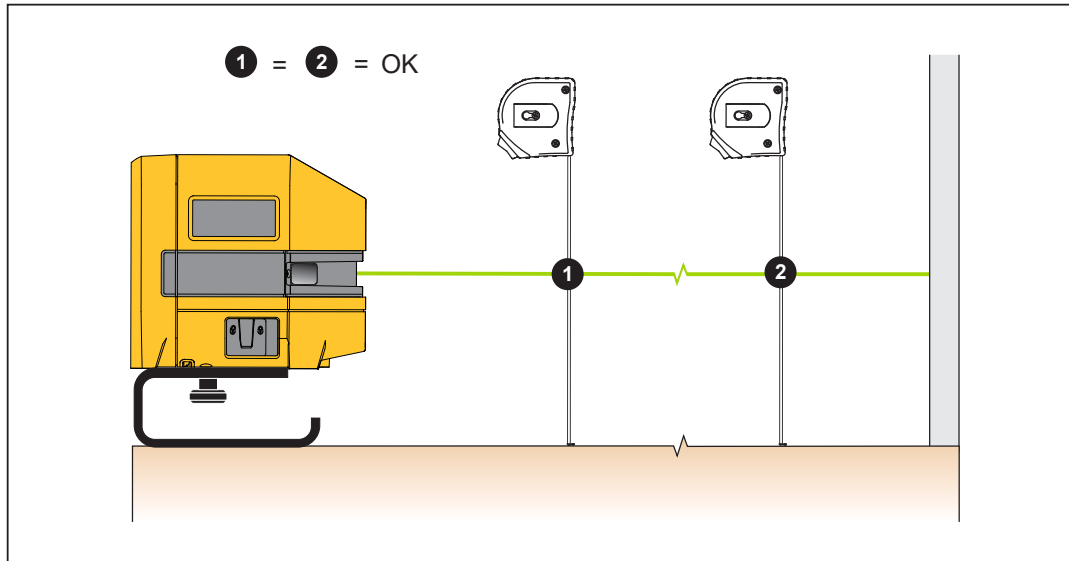

Figure 3. Existing Item Alignment
3. Measure the distance from the item to the laser at various distances from the Product. See Figure 3.